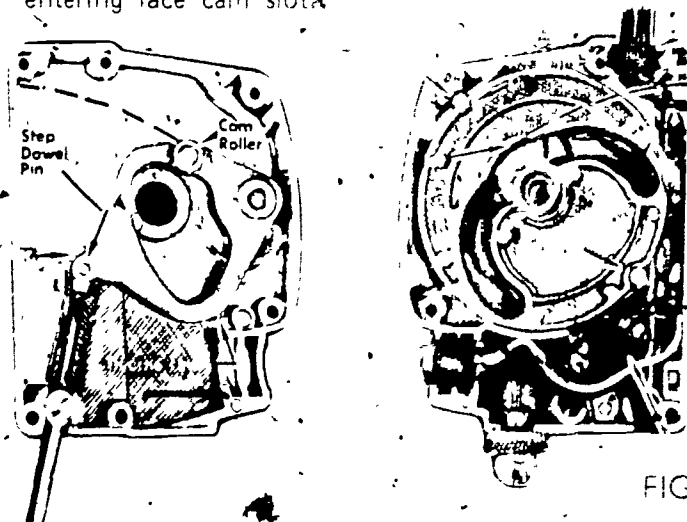

FIGURE 4
7. Place halves together (Figure 4).